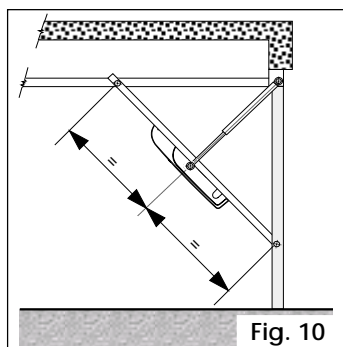

Fig. 10
• **garage door with horizontal guides (Fig. 10)**